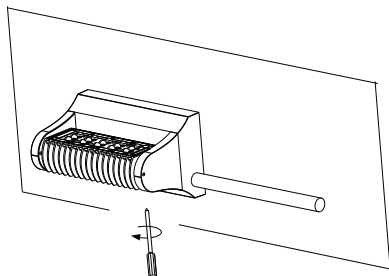

Figure 7
3. Tighten the pipe to the luminaire; adjust the emitting angle and tighten the locking screw. (Figure 7)